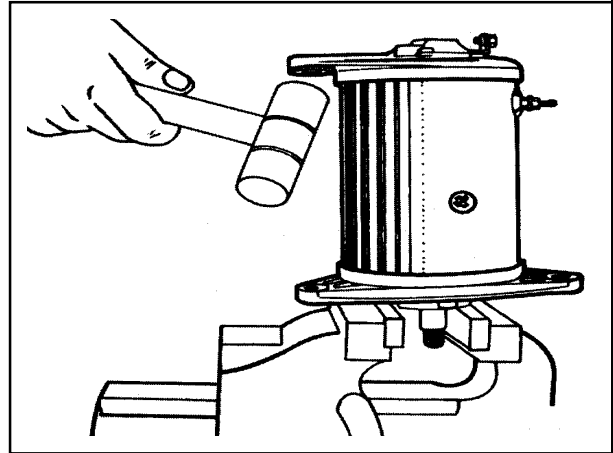

Figure 8
- Remove the C.E. bracket reference figure 8.